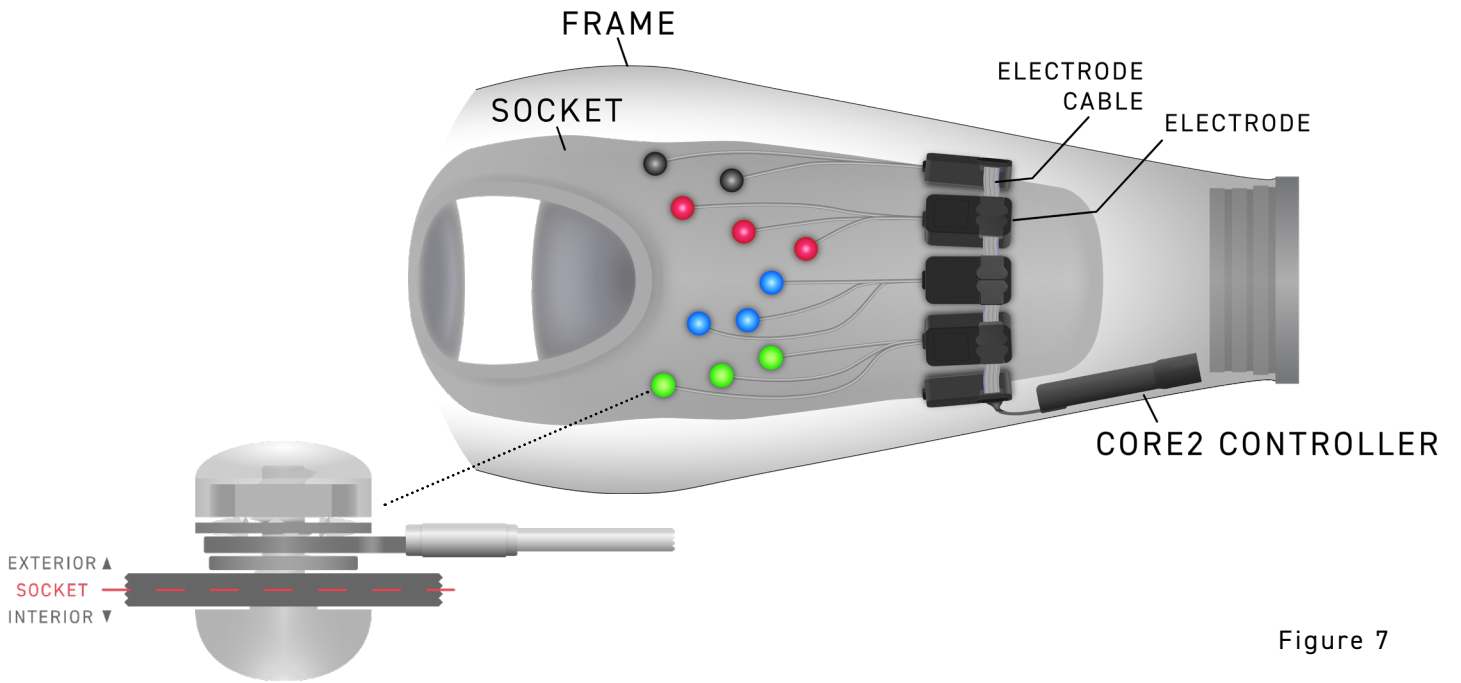

Figure 7
7. See Figure 7 for final assembly.